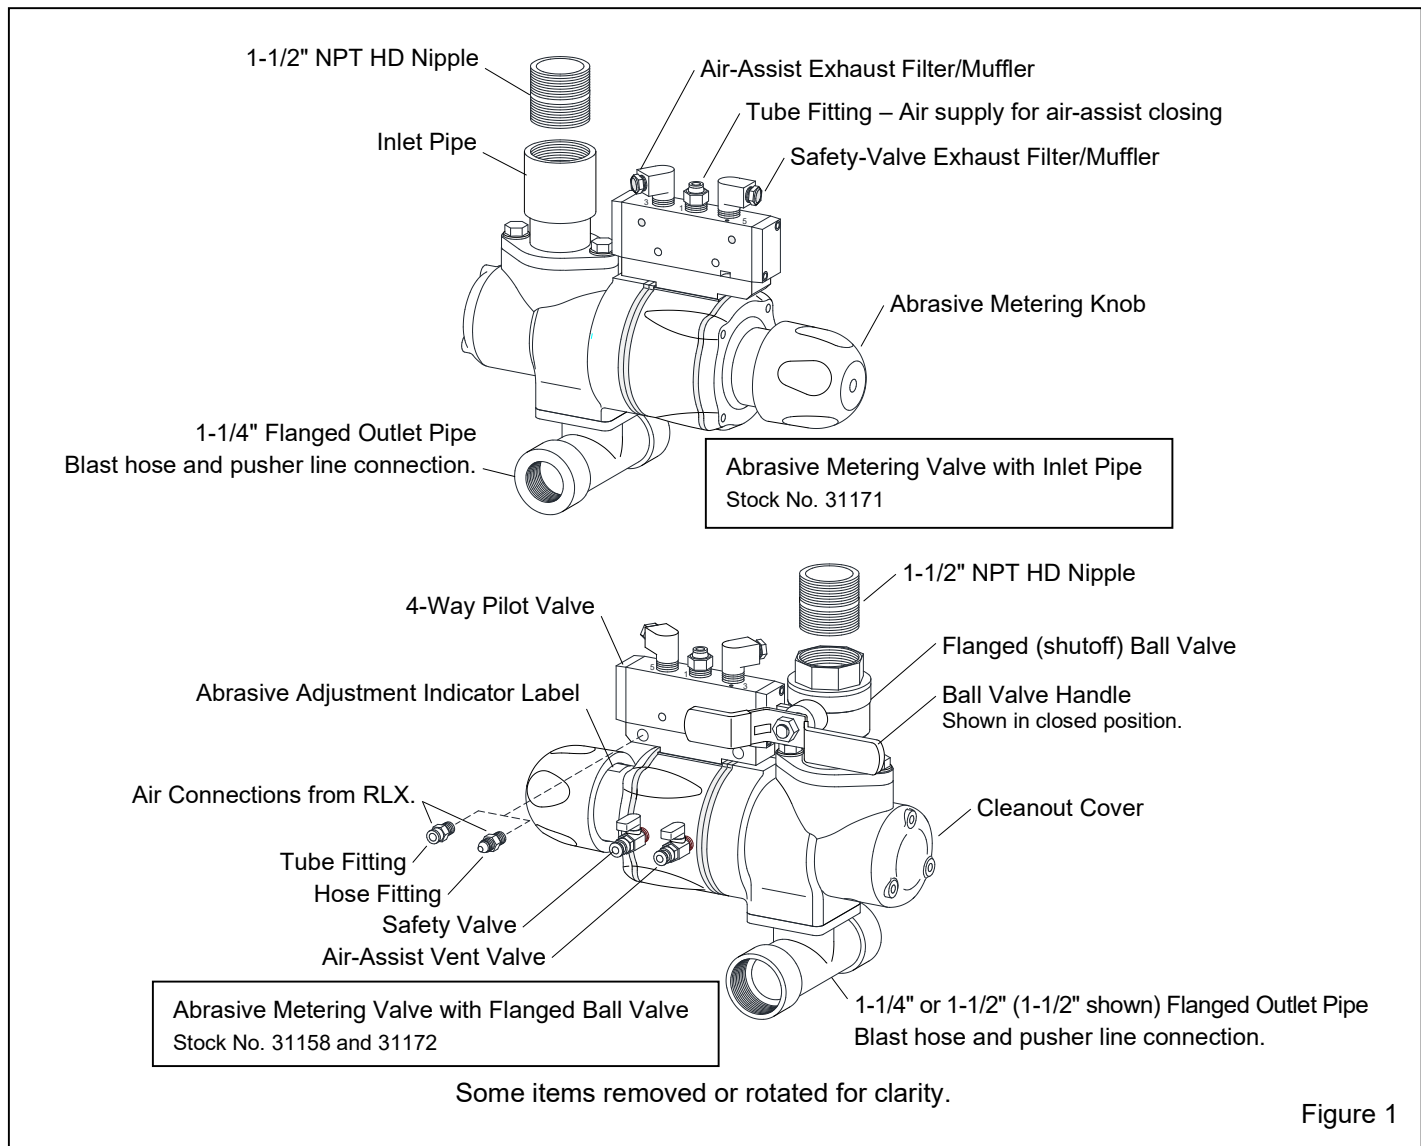

Figure 1
1.5.1 Main components of the metering valve assembly are shown in Figure 1 and include the metering valve and a 1-1/2" nipple to connect the valve to the blast machine. There are two valve options as noted below: